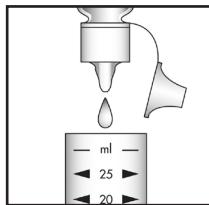

Figure 1
1. Add 2 drops of S-1500 Stabilizer and 10 drops of S-1502 Activator Solution to the empty sample cup (fig. 1).
1. Add 1.0 mL of S-1504 Stabilizer Solution to the empty sample cup (fig. 1).